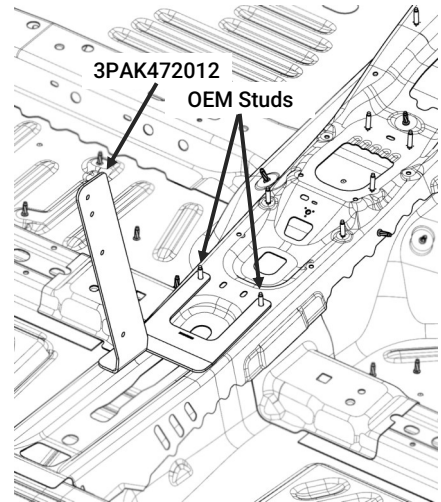

Figure 4
- A. Using a 10mm socket remove the (2) nuts from the rear console mount studs.
- B. Manipulate the center mount bracket [3PAK472012] into place underneath the rear of the console and onto the OEM studs (Fig 4). It may be necessary to loosen the other bolts holding the console to the vehicle.